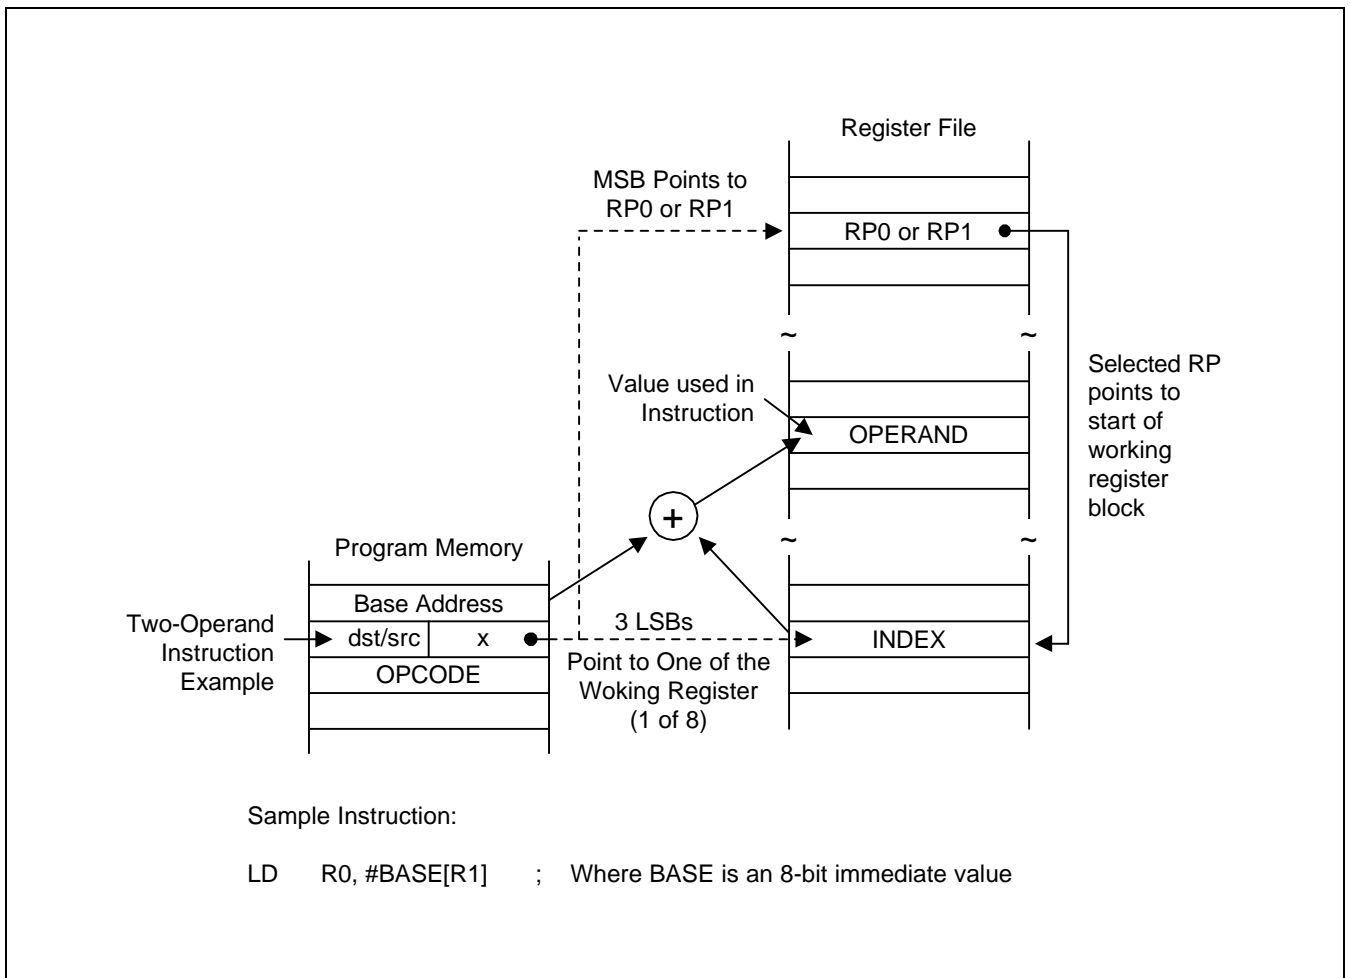

Figure 3-7. Indexed Addressing to Register File
Indexed (X) addressing mode adds an offset value to a base address during instruction execution in order to calculate the effective operand address (see Figure 3-7). You can use Indexed addressing mode to access locations in the internal register file or in external memory. You cannot, however, access locations C0H–FFH in set 1 using Indexed addressing mode.